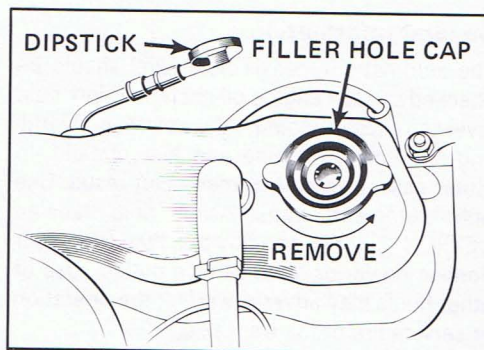

Figure 1 - Top of engine
1. The best time to check the engine oil level is when the oil is warm, such as during a fuel stop. Make sure the vehicle is parked on level ground. After stopping the engine, wait a few minutes for the oil to drain back to the oil pan. Then, pull out the dipstick on the front of the engine. See Figure 1. Wipe it clean, and push the dipstick back down all the way. (The dipstick has a special seal at the top. Make sure it is fully seated when checking the oil level to assure accurate readings.) Now, pull out the dipstick and look at the oil level on it.